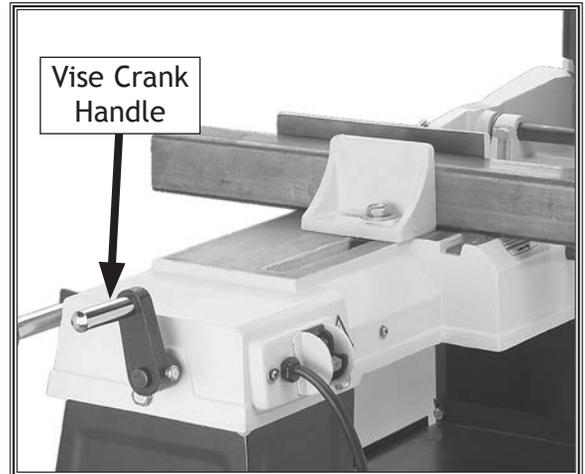

Figure 28. Vise crank handle.
4. Turn the vise crank handle (see **Figure 28**) clockwise to firmly secure the workpiece in the vise jaws. The workpiece is now ready to cut.